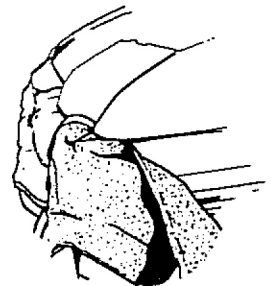

figure 7
- 2.5 Fender corner pockets slide around the forward point of the fender like a hand slides into a mitten as shown in figures 7 & 8.